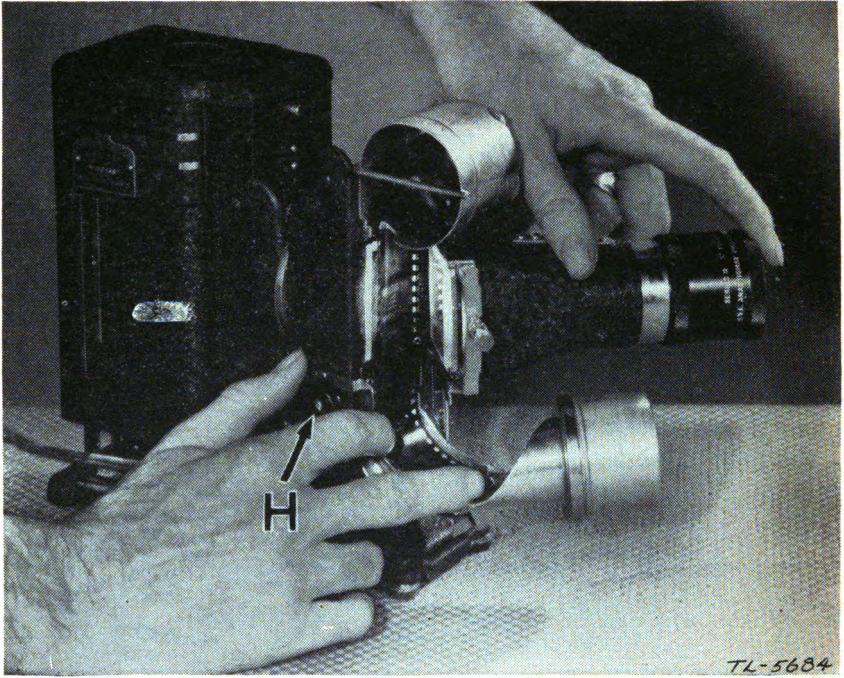

FIGURE 72.—Threading projector PH-222.
**22. Framing.**—*a.* To frame the image properly on the screen, push in the operating knob *H* (fig. 72) and turn clockwise. When the image is properly framed, release the knob.